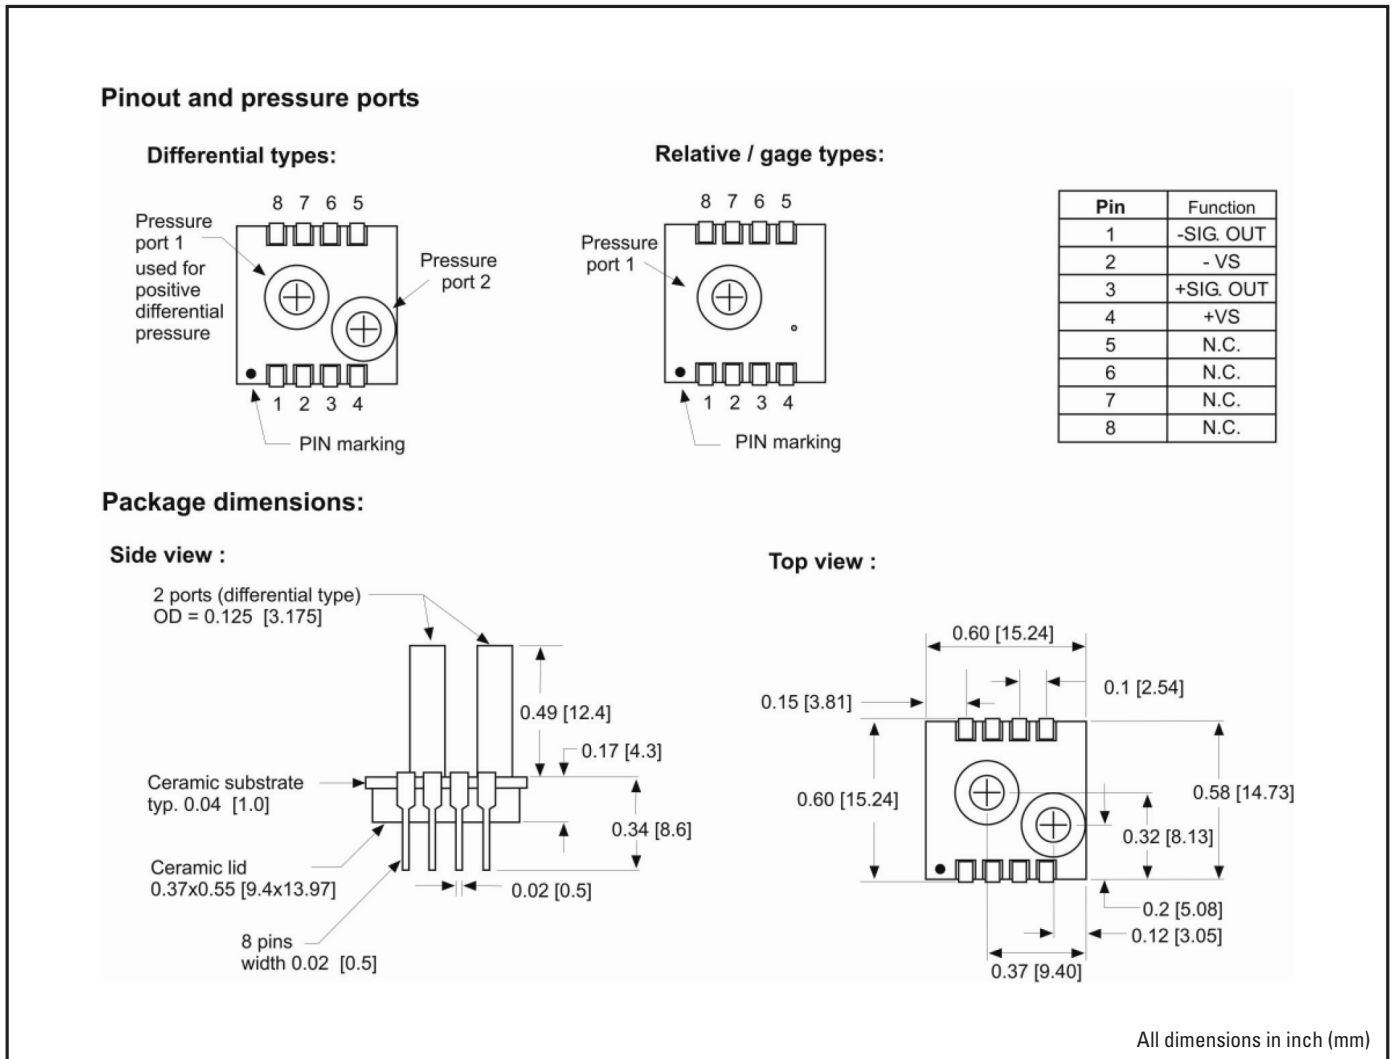

Figure 2: Dimensions
- Supply voltage is defined as voltage between pin 4 and pin 2 (see *Figure 2*).
- Media compatibility of port 1 (see *Figure 2*): fluids and gases non-corrosive to silicon, Pyrex, RTV silicone rubber.
- Media compatibility of port 2 (see *Figure 2*): clean, dry gases, non-corrosive to silicon, RTV silicone rubber, aluminium, gold (alkaline or acidic liquids can destroy the sensor).
Port 1 is connected to the back side of the sensor die, port 2 is connected to the top side of the die (for port definitions see *Figure 2*). Positive pressure is defined as entry on the back side of the die.
HDS 5612 pressure sensors come in a dual-in-line package (DIP) for assembly on printed circuit boards. Figure 2 below gives the pinout and dimensions of the dual in-line package.